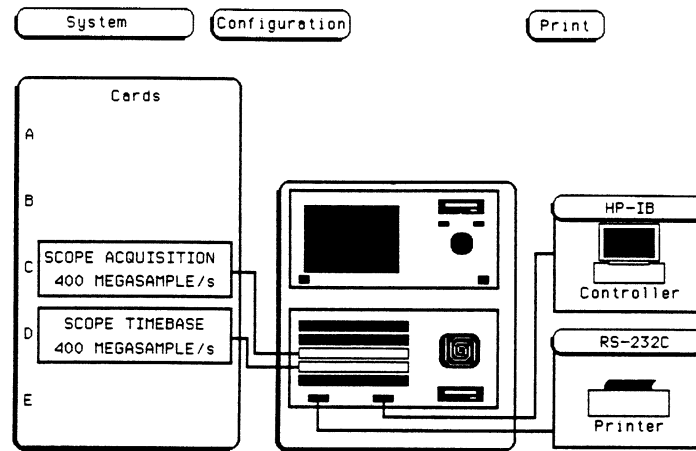

Figure 4-22. Startup Screen
- b. From the startup screen in figure 4-22, touch these fields in the sequence below: